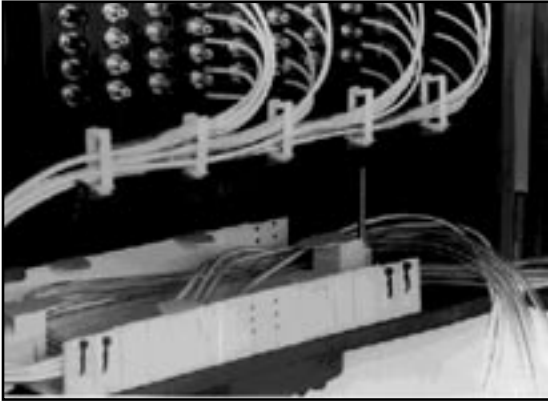

FIGURE 10 - ROUTING TRANSPORT AND PIGTAIL TUBES WITHIN TRANSITION ASSEMBLY
6.01 Route the Transport Tubes with the feeder cable fibers, and the Pigtail Tube Assemblies within the Transition Assembly so that they will exit at the front left corner of the Transition Assembly. (Figure 10)
6.02 Use two tie-wraps to gently secure the Pigtail Assemblies to the back right corner of the Transition Assembly as shown in Figure 10.